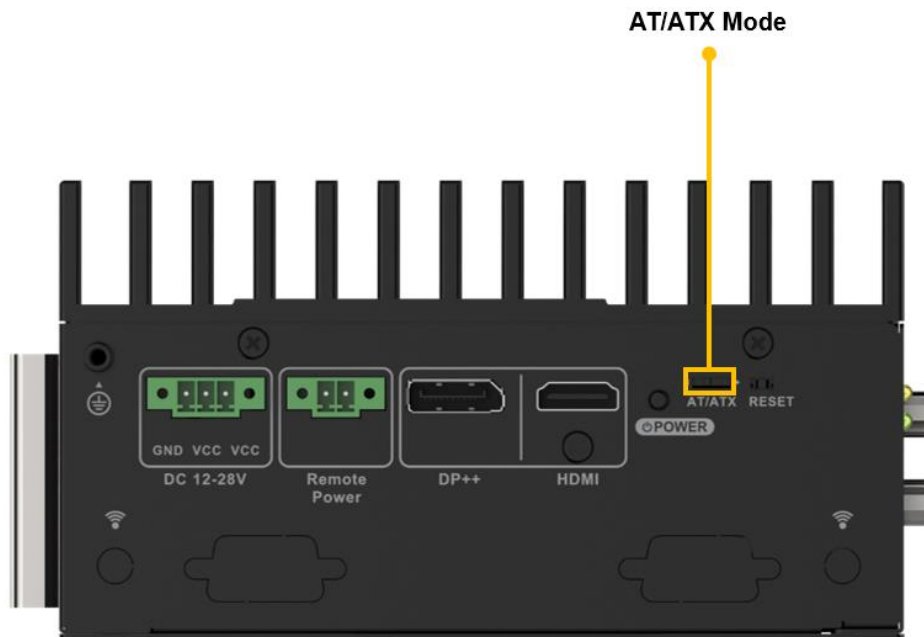

Figure 3-31: AT/ATX Power Mode Setting Location
- CN Location** See **Figure 3-31**